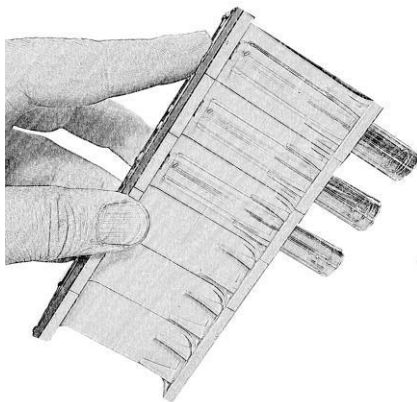

Figure 2: Hand-decanting supernatant using a Magnetic Rack.
4. Incubate for 120 minutes at room temperature (RT) in an orbital shaker. Protect it from light.
6. Collect the BCR-Capture Beads (note that these beads are magnetic) by placing the tubes on a magnetic rack and incubating for 5 minutes. If a magnetic rack is unavailable, centrifuge the tubes at 2500 x g for 5 minutes. Remove the supernatant from the tubes either by hand-decanting (Fig. 2) when using a magnetic rack or by aspiration if centrifugation was used. Exercise caution to avoid disturbing the microspheres and ensure that no more than 100 μ L of supernatant remains in the tube.
10. Collect the sandwich complex (BCR-Capture Beads bound to the fusion protein and Detector Antibody) by placing the tubes on a magnetic rack and incubating for 5 minutes. If a magnetic rack is not available, centrifuge the tubes at 2500 x g for 5 minutes. Remove supernatant from tubes by hand-decanting (Fig. 2) or by aspiration. If centrifugation was used. Exercise caution to avoid disturbing the microspheres and ensure that no more than 100 μ L of supernatant remains in the tube.